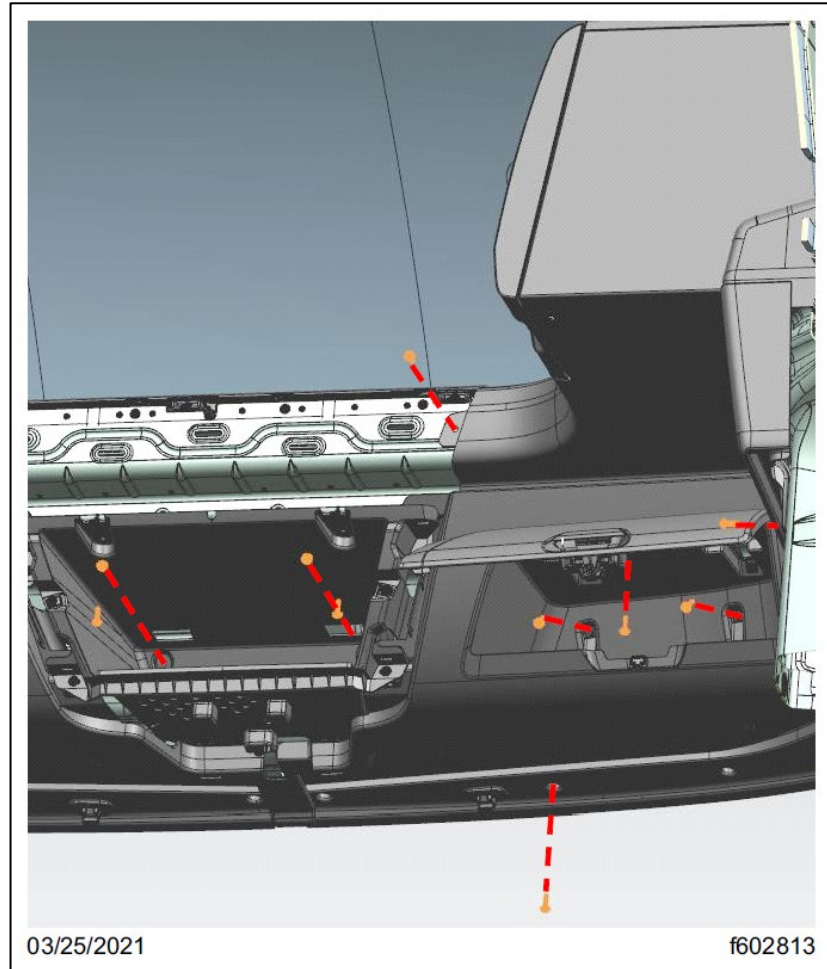

Fig. 48, Fasteners That Attach the Center Storage Bin and the RH Side Overhead Storage Assembly to the Cab Roof
- 8.5. Remove the eight fasteners that attach the center storage bin and the RH side overhead storage assembly to the cab roof. See Fig. 48.